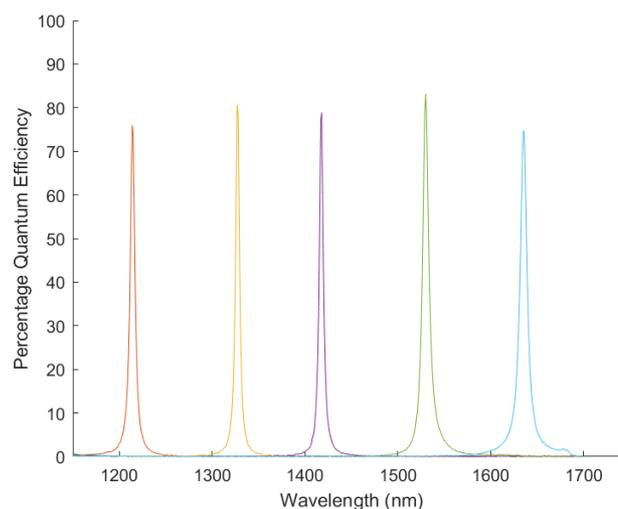
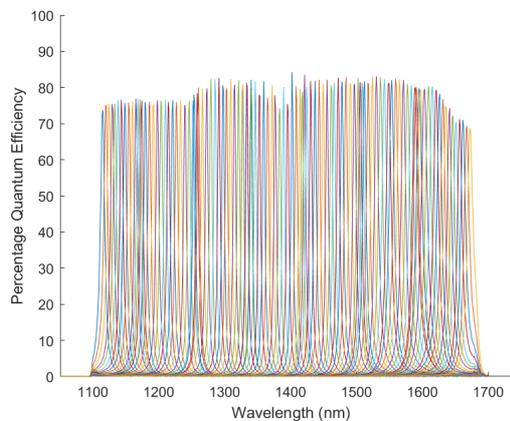

Figure 3 Subset of the spectral bands
Figure 4 Spectral response for all the filters
- *Central wavelengths (CWL), FWHMs and absolute QE values indicated in Figure 3 & Figure 4 are for illustration purpose only. The actual CWL, FWHMS and peak QEs of the spectral bands are determined based on individual sensor calibration. This information can be found in the sensor calibration file provided with the camera and on the imec HSI support site.*
Each of the 100 spectral filter is a narrow band filter with FWHM between ~ 10 - 15 nm. Figure 3 shows a subset of the spectral bands. Figure 4 shows the spectral response for all the filters.